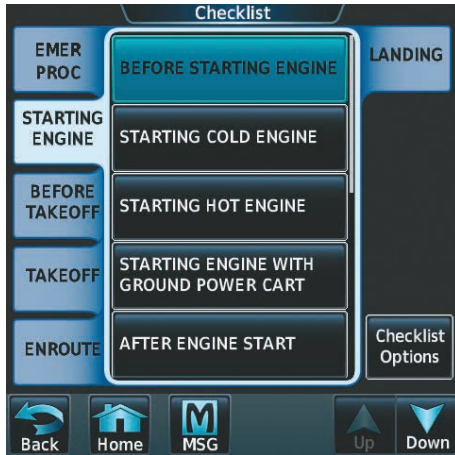

Figure 8-126 Checklist Screen
- 2) Touch the desired checklist to reset. **BEFORE STARTING ENGINE** is selected in Figure 8-126.
- 2) Touch the **Checklist Options** Button shown in Figure 8-126.